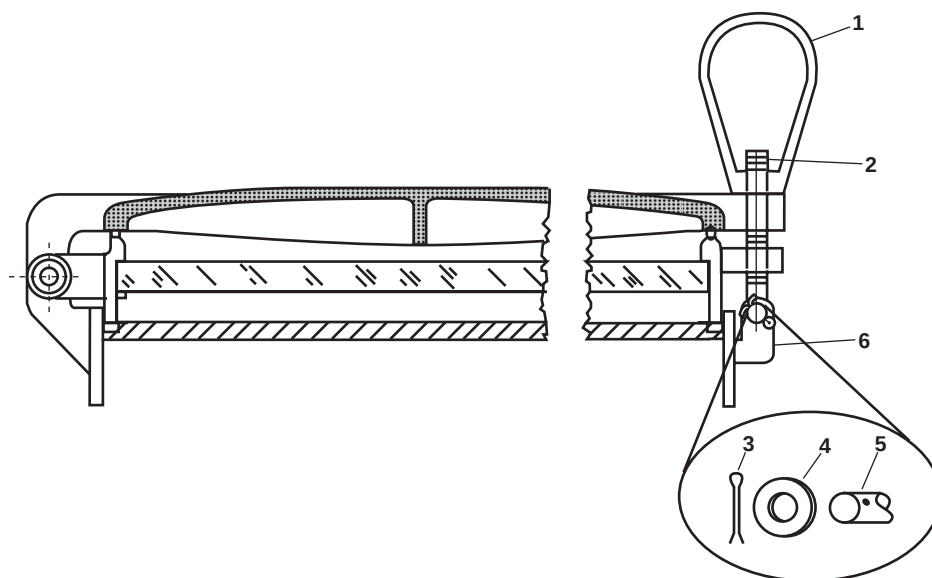

Figure 1. Bell Nut Housing
1. Unscrew the locking nut (figure 1, item 1) from the rod (figure 1, item 2).
2. Remove the cotter pin (figure 1, item 3) and flat washer (figure 1, item 4). Discard the cotter pin.
3. Use a hammer and punch to drive out the machine screw (figure 1, item 5).
4. Remove the rod (figure 1, item 2) from the boss (figure 1, item 6).
1. Position the rod (figure 1, item 2) in the boss (figure 1, item 6), and secure it with the machine screw (figure 1, item 5).
2. Thread the locking nut (figure 1, item 1) onto the rod (figure 1, item 2).
3. Install the flat washer (figure 1, item 4) and a new cotter pin (figure 1, item 3).